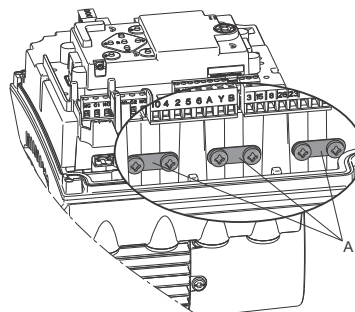

Fig. 60 Connecting the cable screens to ground (earth)
7. Connect the cable screens of the bus cables to ground (earth) via one of the ground (earth) clamps (fig. 60, A).